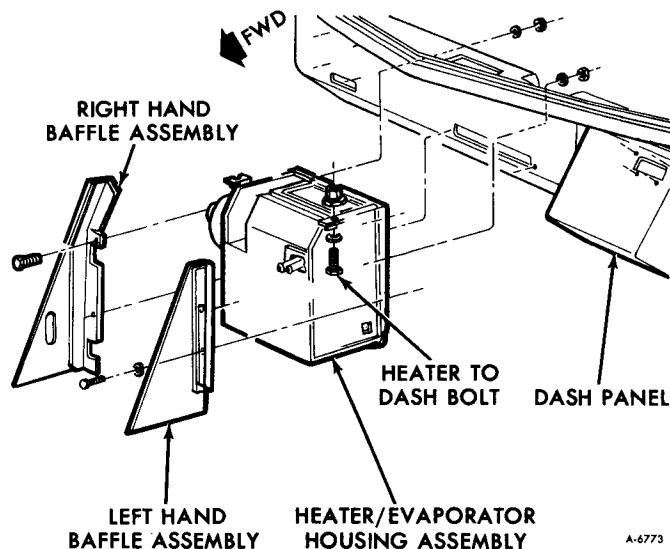

Figure 62—Heater/Evaporator Housing Assembly with Baffles (403 cu. in. Engine)
3. Remove baffle from passenger side of heater/evaporator housing. (1977 model vehicles equipped with 403 cubic inch engines, and all 1978 model vehicles will have an additional baffle mounted on the driver's side of the heater/evaporator housing. Remove this baffle also.) (Refer to figure 62).
5. Remove bracket mounting screws (2) from receiver-dehydrator. If hose and tube assembly is used at receiver-dehydrator, swing dehydrator over toward passenger side of vehicle and position out of way of evaporator face panel. Hoses can be left connected to the dehydrator. If the newer aluminum tube assembly is used at receiver-dehydrator, lines to dehydrator must be disconnected. (In this case the refrigerant system must be dis-
4. Remove baffle from passenger side of heater/evaporator housing. (1977 model vehicles equipped with 403 cubic inch engines, and all 1978 model vehicles will have an additional baffle mounted on the driver side of the heater/evaporator housing. Remove this baffle also.) (Refer to figure 62.)